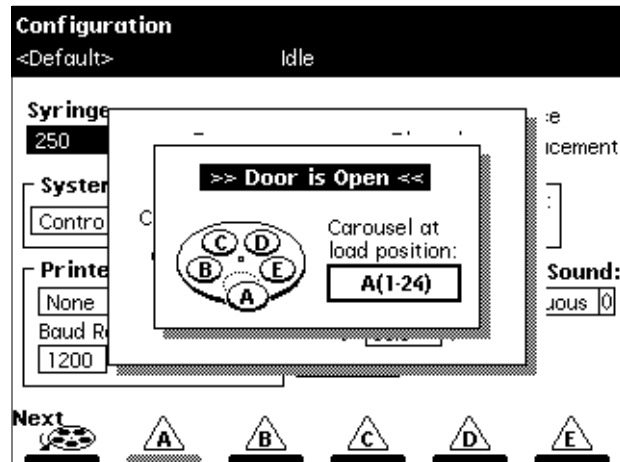

Figure 4-2 Door is Open Dialog Box
1. Open the carousel door. The Door is Open dialog box appears in the screen, as shown in Figure 4-2.
1. Open the carousel door if it is closed. The Door is Open dialog box appears on the screen, as shown in Figure 4-2.